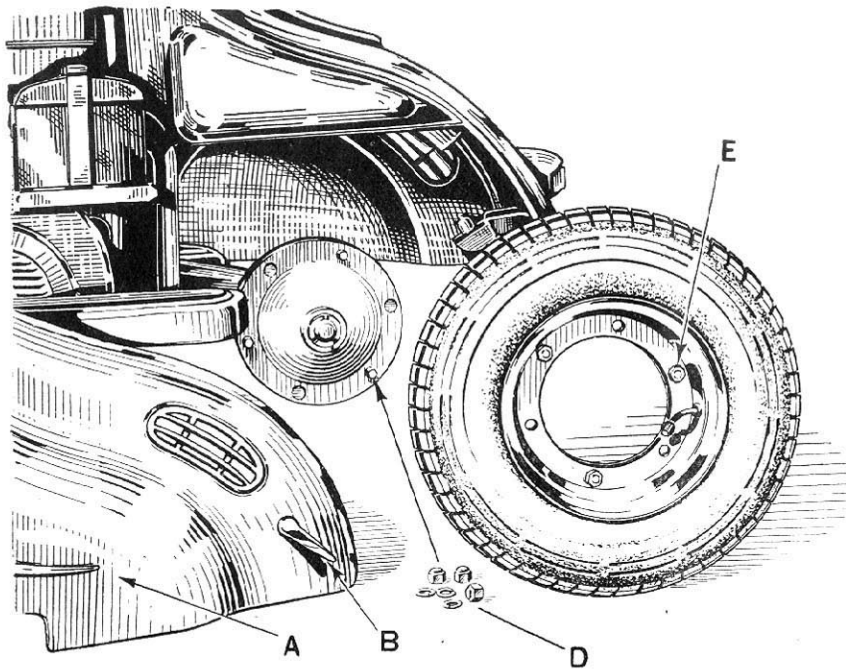

Fig. 6
To dismantle the rear wheel (see fig. 6), remove the left side panel (A) loosening the fastener (B); then loosen the three cap nuts (D) holding the wheel to the hub.